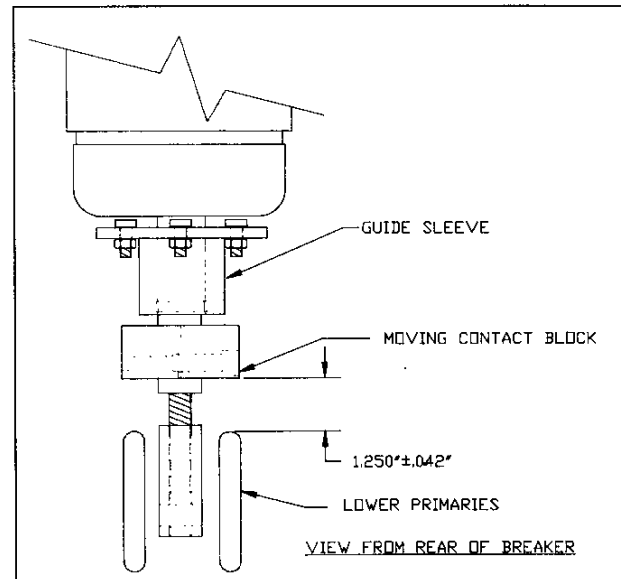

Figure 1. Moving Contact Block Measurements
At each inspection, the vacuum interrupters should be checked for contact erosion. The breaker must be closed for this check. Each new vacuum interrupter is set with a gap of about 0.500 inch between the contact loading spring yoke and the nut on the pushrod. Because the factory setting of the overtravel gap varies slightly for each interrupter, a label is provided on the lower part of each interrupter. The original factory setting of the overtravel gap and the end-of-life measurement of this gap are recorded on the label. When the overtravel gap measurement reaches the end-of-life value given on this label the interrupter should be replaced. See Figure 1.
- With closed contacts on a new vacuum interrupter, the bottom of the moving contact block should be 1.250" plus or minus 0.042" above the top of the lower main primary disconnect bars. See Figure 1.